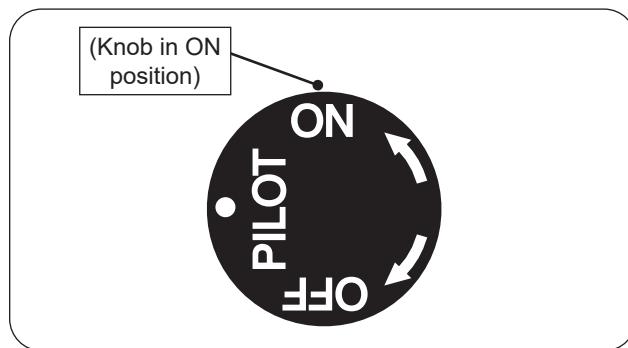

Fig. 34-1 Manual lighting
1. Ensure the pilot is burning. Turn the control knob counterclockwise ↺ to **ON** to ignite the burner (see Fig. 34-1).